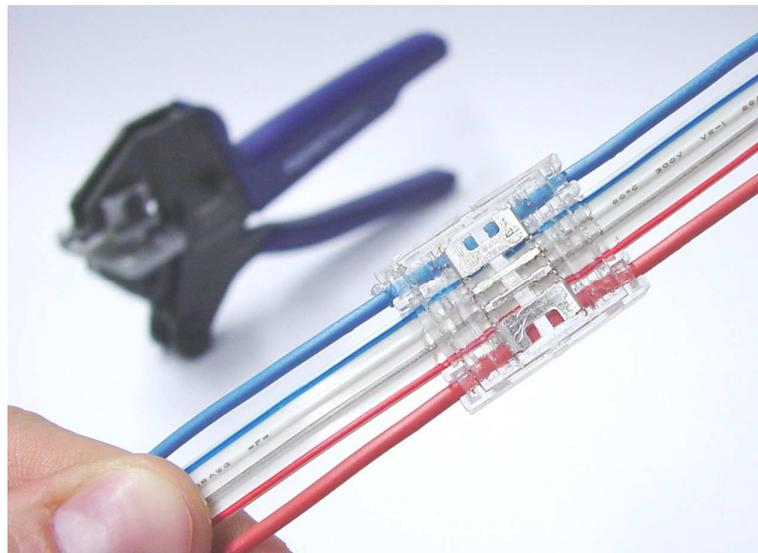

Figure 13
5. In the end the handle is opened and the connector with the pressed in wires may be removed (see figure 13).